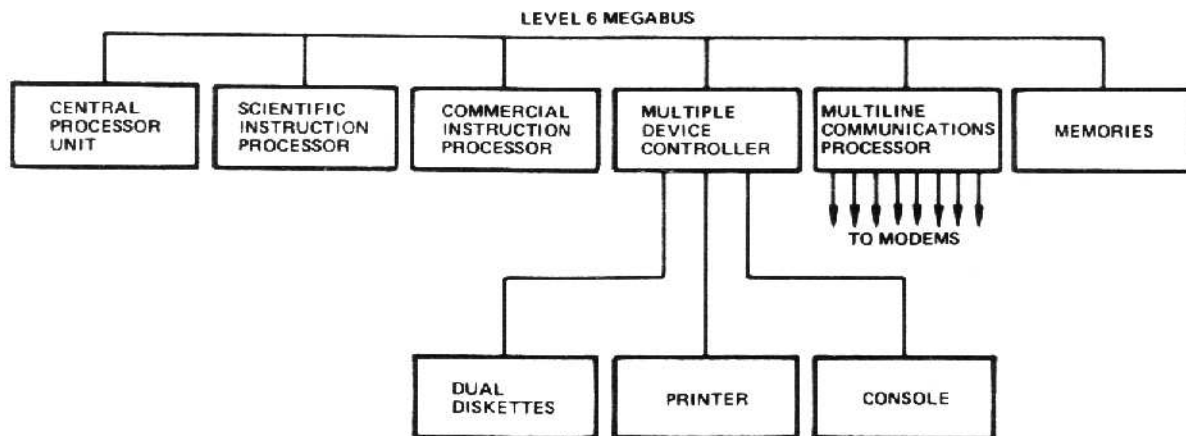

Figure 2-4 Typical Level 6 System
The Megabus (see Figure 2-4) provides a common communication path (interface) among all units of the Level 6 system. The Megabus is asynchronous in design, permitting units of varying speeds to operate efficiently on the same system. Five types of communication are permitted over the Megabus: (1) memory read requests, (2) non-memory read requests, (3) read responses, (4) memory write requests, and (5) non-memory write requests, including interrupts.